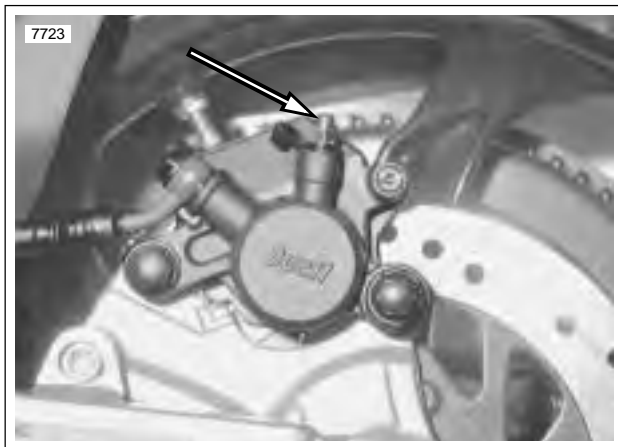

Figure 2-45. Rear Caliper Bleeder Valve (Metric)
- a. See Figure 2-45. Remove cap from rear caliper bleeder valve. Open bleeder valve (metric) about 1/2 turn.